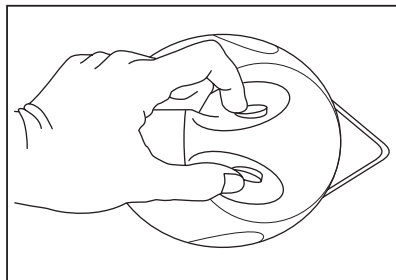

FIGURE 3
4. Open the Lid by pressing the Lid Release Buttons together and lifting up. (See Figure 3). Fill the Kettle with the desired amount of water. Close the Lid and wipe excess water off the Kettle.
2. Open the Lid by pressing the Lid Release Buttons together and lifting up (Revert back to Figure 3).